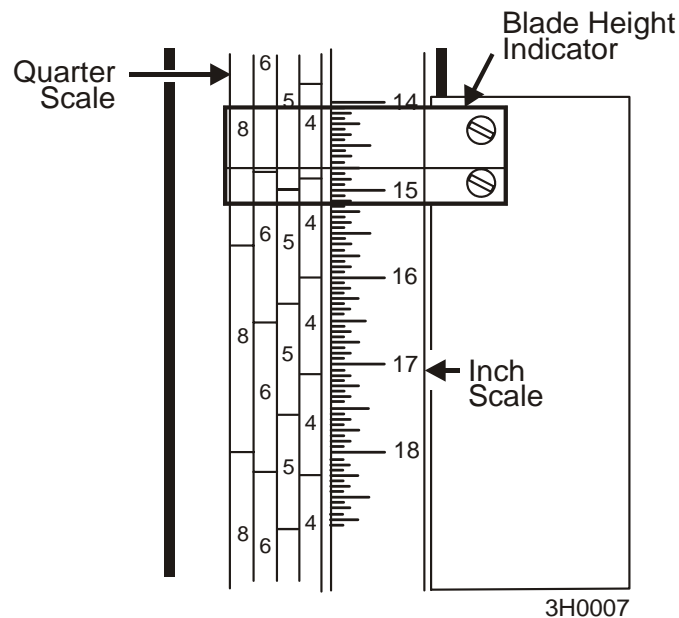

FIG. 7-16
**See Figure 7-16.** Loosen the indicator bracket mounting bolts and adjust the bracket until the indicator is aligned with the correct mark on the scale (+0 -1/32 [0.8 mm]). Retighten the bracket mounting nut.